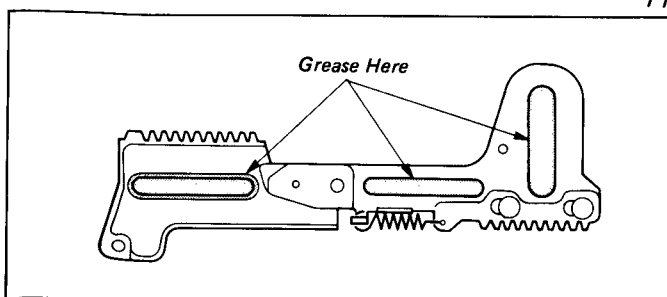

Fig. 1-34
- 1) Grease the parts. (See Fig. 1-34.)